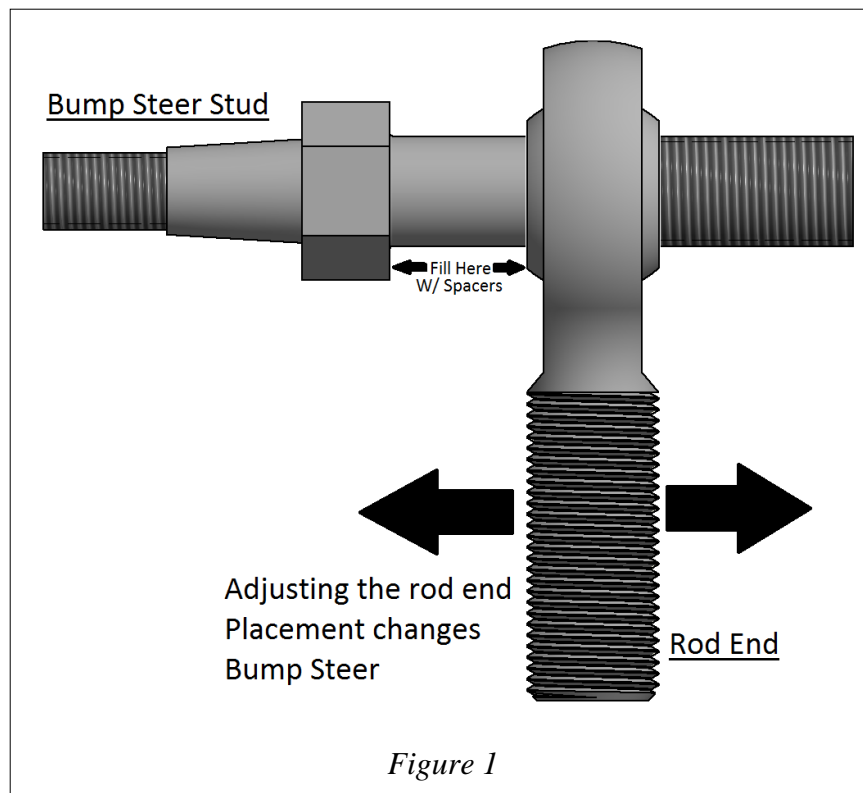

Figure 2
5. Measure from the center of the inner tie-rod joint to the center of the outer tie-rod ball joint. When installing the new end, you will want to match this length to keep the toe of the wheel in line (See Figure 2).